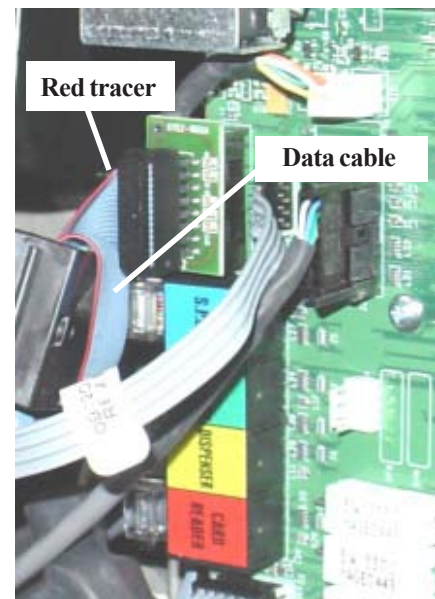

Figure 21. Data cable.
- ➡ Connect the gray ribbon data cable to the docking board assembly (Figure 21). **Note the orientation of the gray ribbon data cable. The red “tracer” is towards the top when installed.**